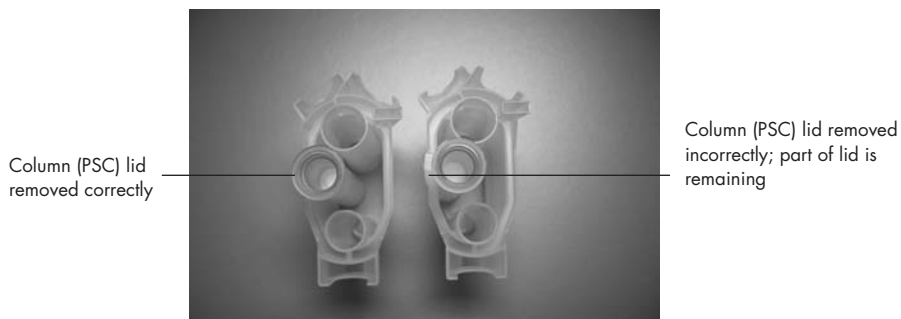

Figure 16 The PAXgene Shredder spin column (PSC) is loaded into the middle position. Cut off the lid before loading the column (PSC).
Label rotor adapters and microcentrifuge tubes (MCT) for each sample using a permanent pen. Open the PAXgene Shredder spin columns (PSC) to be used, and cut the lids off completely using scissors (see Figure 16).
❷ For proper operation of the QIAcube robotic gripper, completely remove (cut off) the lids and all plastic parts connecting the lid to the PAXgene Shredder spin columns (PSC; see Figure 16). Otherwise, the robotic gripper cannot grip the spin columns (PSC, PRC) properly.